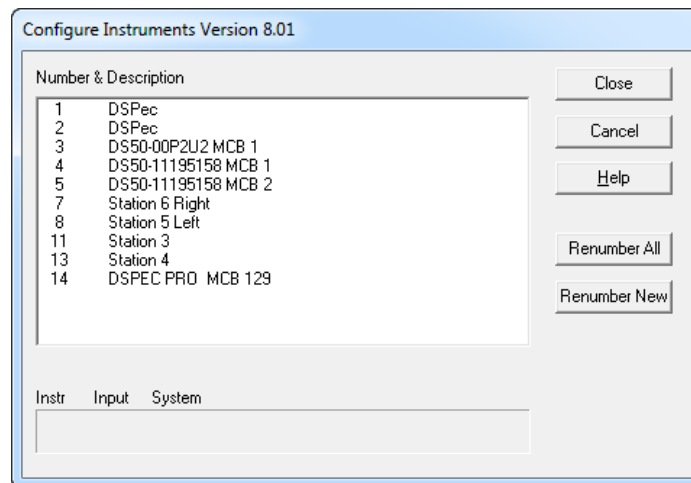

Fig. 3. MCB Numbering and Descriptions.
- 3) To start the software, type `mcb` in the “Search programs and files” box on the Windows Start menu, then click the **MCB Configuration** search result; or open the Windows Start menu and click **MAESTRO**, then **MCB Configuration**. The MCB Configuration program will locate all of the powered-on ORTEC MCBs on the local computer and the network, and display the list of instruments found (the *Master Instrument List*; Fig. 3). If you wish, you may enter customized instrument ID numbers and descriptions (Section 2.2.4.2). When you close the dialog, any changes you have made to an ID number or description will be written back to the corresponding MCB.